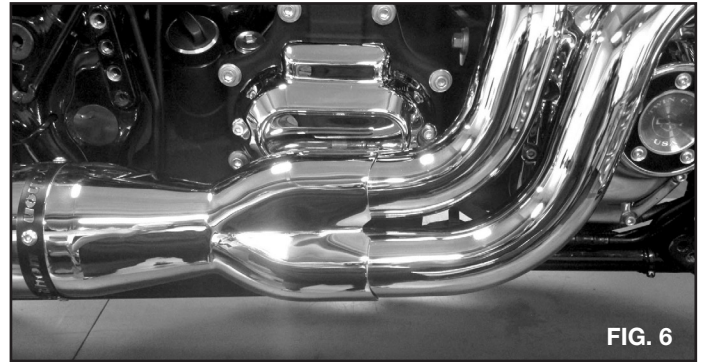

FIG. 6
4. Adjust the collector heat shield rearward and align with the edge of the muffler heat shield. Tighten the hose clamps to secure the collector heat shield (FIG. 6).